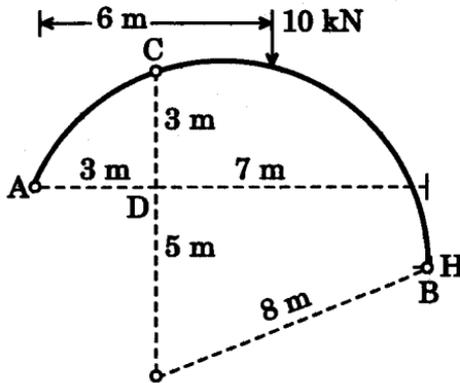

Figure 1
2. A three-hinged circular arch consists of a portion AC of radius 3 m and rise of hinge C with respect to left abutment is 3 m. The right hand portion CB is of radius 8 m and the horizontal distance BC is 7 m. If a concentrated load of 10 kN acts at 6 m from the left hand end, determine the reactions at supports and maximum bending moment of the arch as shown in Figure 1.